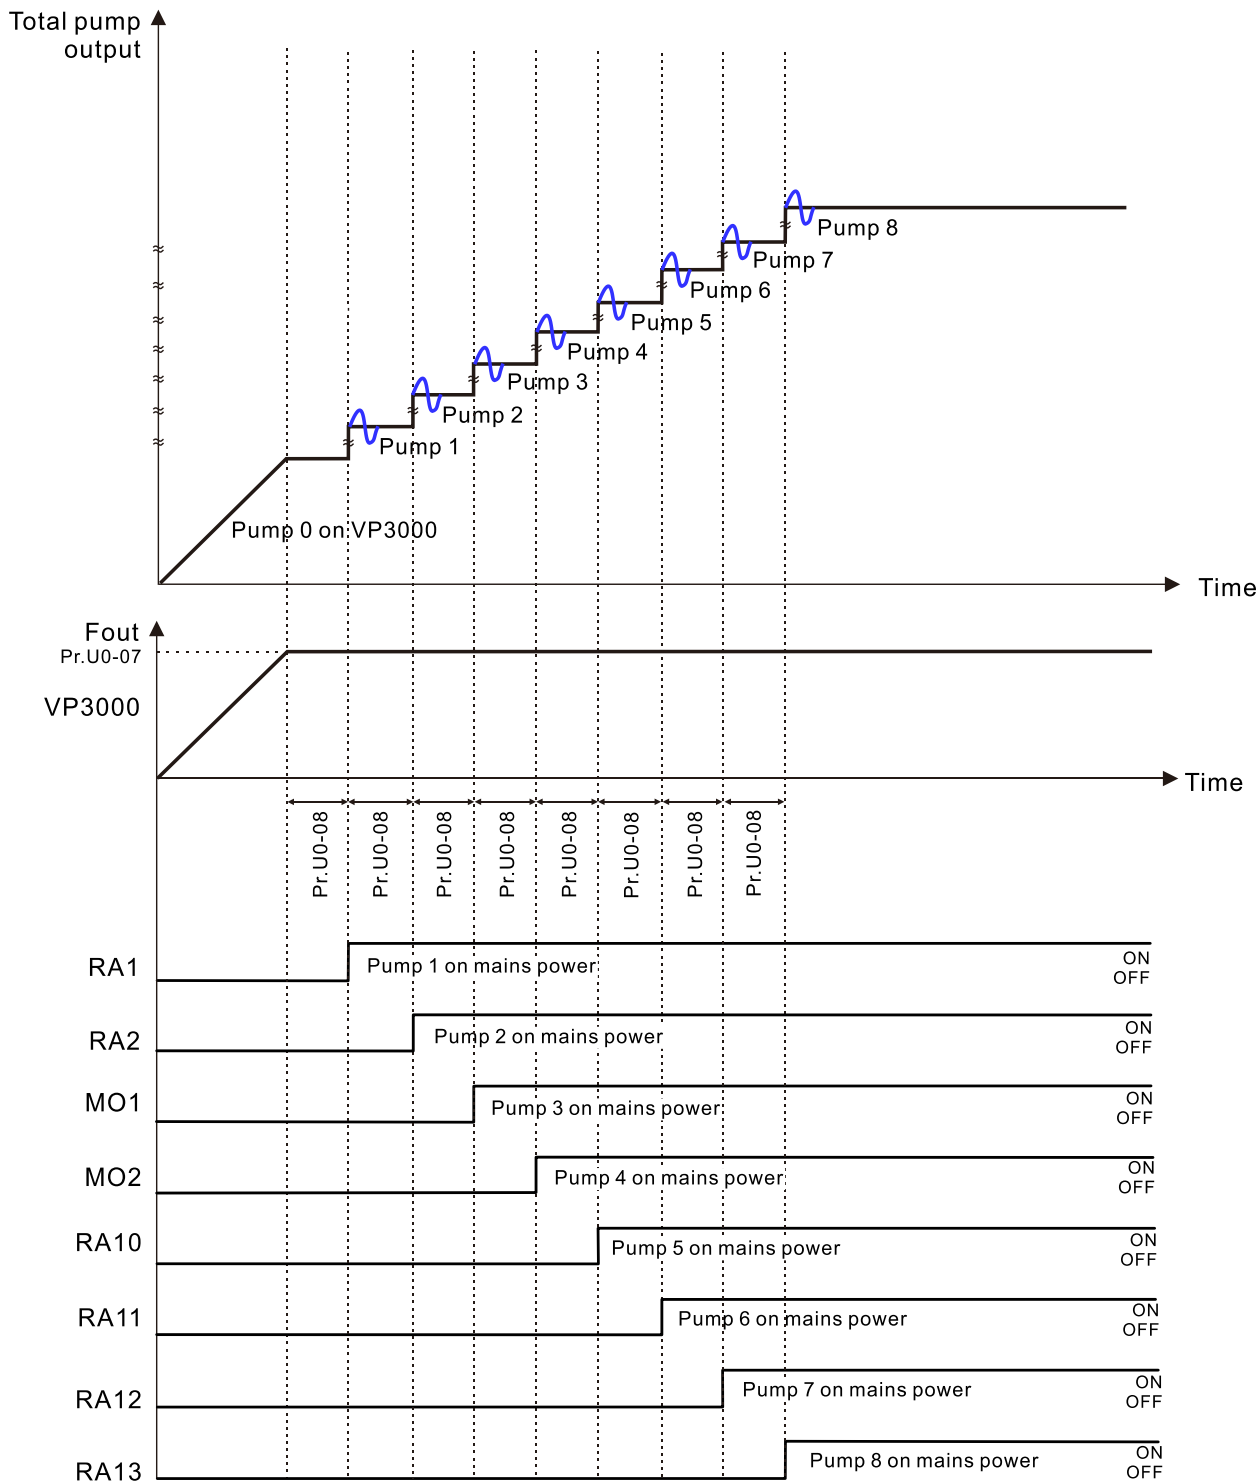

Figure 11 QTY Control Terminal Sequence (Pressure Increasing)
-  After the function is enabled, when the demand for water consumption increases, the master pump output frequency exceeds Pr.U0-07 (AUX Pump Active FREQ Level) and lasts for the time of Pr.U0-08 (AUX Pump Active Check Time), the output terminal is OFF, and the auxiliary pump is started and connected to the mains power. When the demand remains unchanged for the time of Pr.U0-08 (AUX Pump Active Check Time), it turns off the output terminal and starts another auxiliary pump to connect to the mains power until all the auxiliary pumps are connected to the mains (refer to Figure 11).